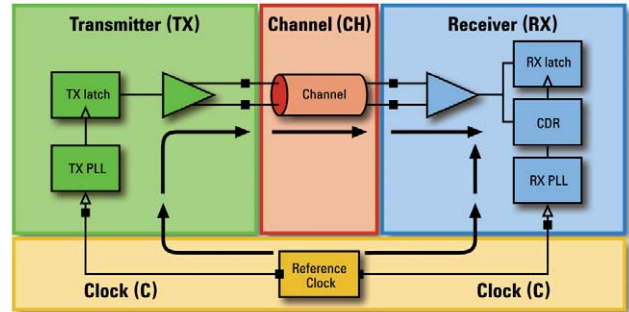

Figure 2: The channel model with embedded loss: the TX output uses de-emphasis, the RX input uses equalization to improve signal integrity
Using de-emphasis at a transmitter (TX) output and equalization at a receiver (RX) input can compensate for the channel and optimize the transmission (see figure 2).